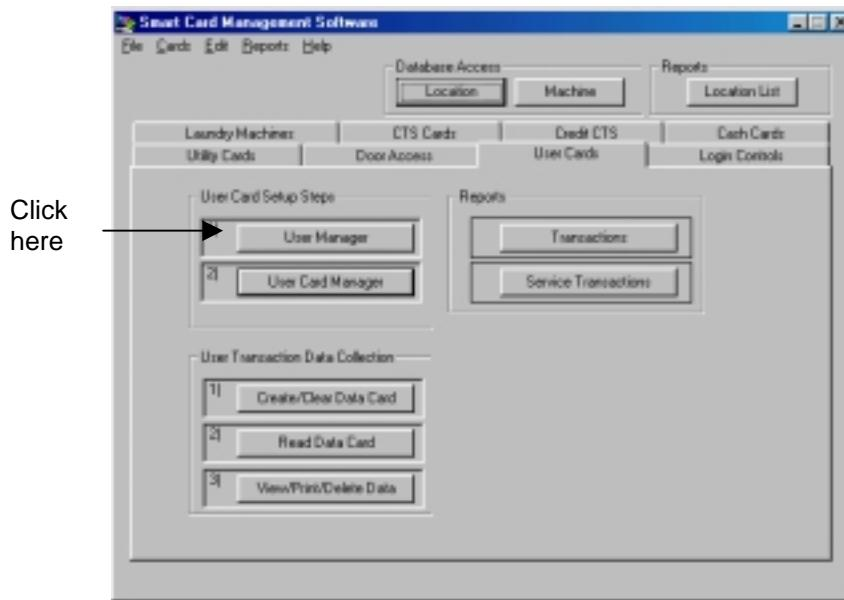

Figure 6.2 Opening the User Manager
1. In the User Cards Manager, click the User Manager button (Figure 6.2).